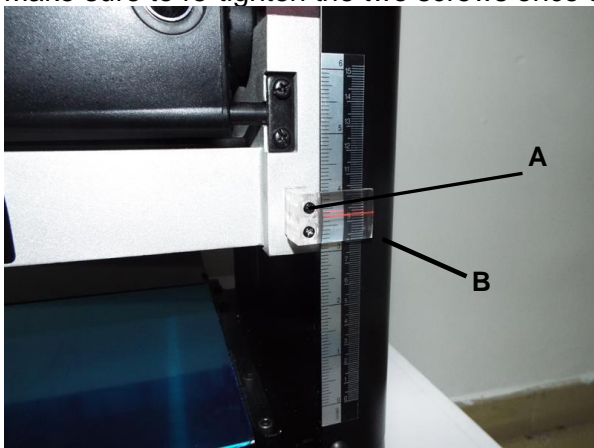

FIG. 10
The thickness scale, located on the right of the planer, shows the thickness of the finished workpiece. To make sure the scale is set properly, run a piece of wood through the planer and measure the thickness of the wood. If the scale is out of alignment, loosen the two round head screws (A) holding the scale indicator (B) and adjust the thickness indicator to the correct setting. Make sure to re-tighten the two screws once the adjustment is complete. FIG 10